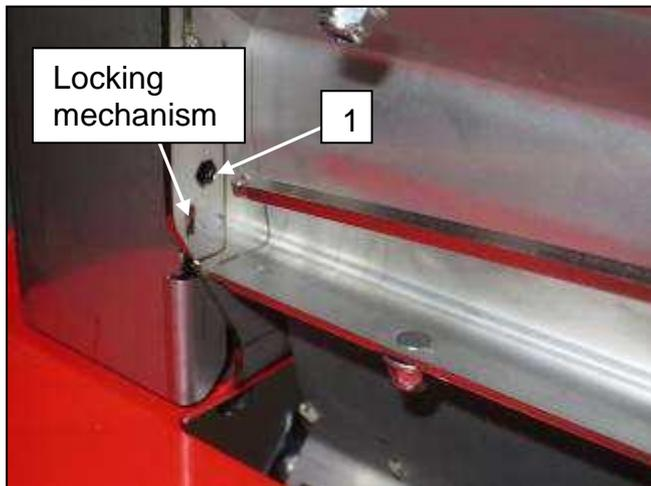
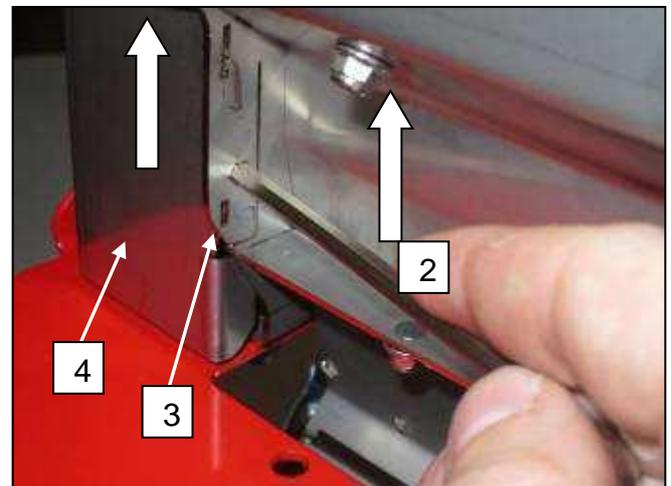
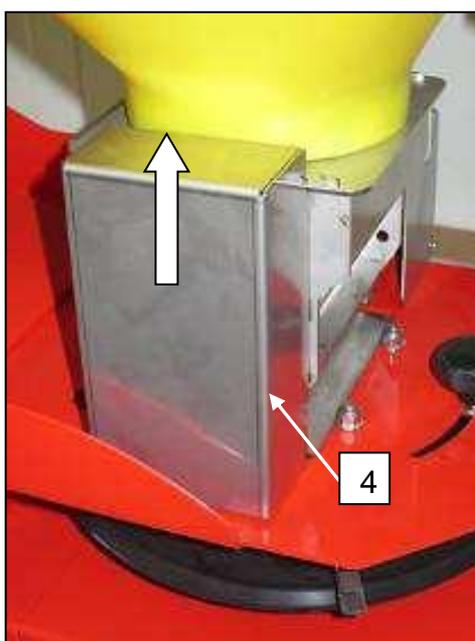

Fig.: 58
Fig.: 59
Fig.: 60
- Insert a 4 mm Allen key through the intended opening 1 (Fig.: 58) and press it upwards 2 (Fig.: 59). As a result, the locking mechanism 3 (Fig.: 59) is pulled inwards and the cover hood 4 (Fig.: 60) can be pulled off towards the top.